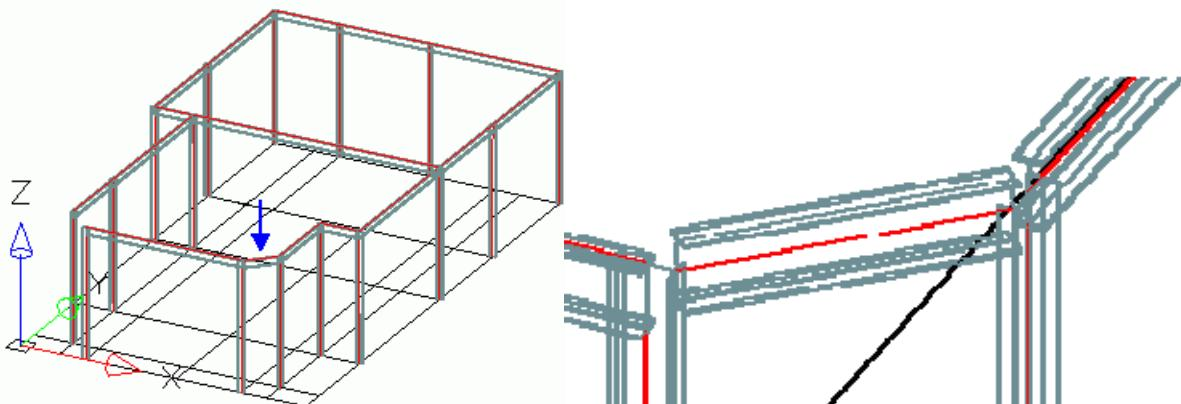

Figure 25: The beam with an I section between columns flange middle: **E1-F2**
3. Using the same process, use the upper flange middle point of the **F2** column as the end point (see Figure 25).